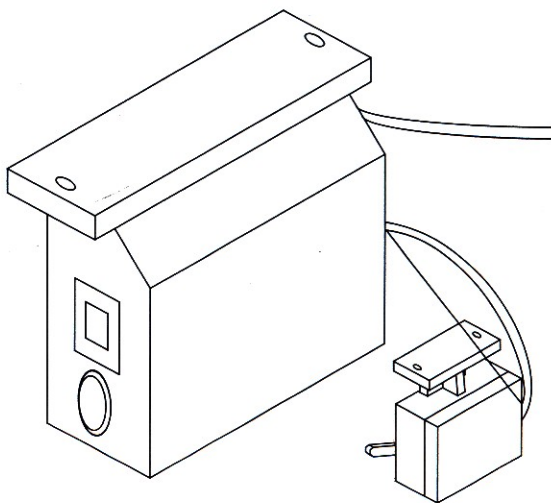

Figure 4
A. The control box and a foot pedal controller. (Figure 4)